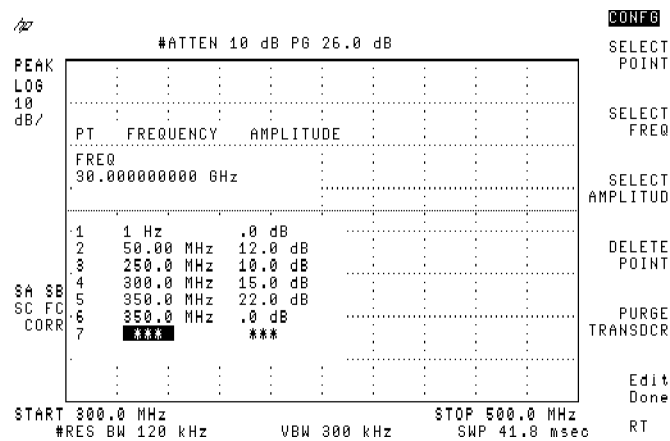

Figure 3-87. Completed Amplitude-Correction Table
- SELECT AMPLITUDE 0 (dB). See Figure 3-87.